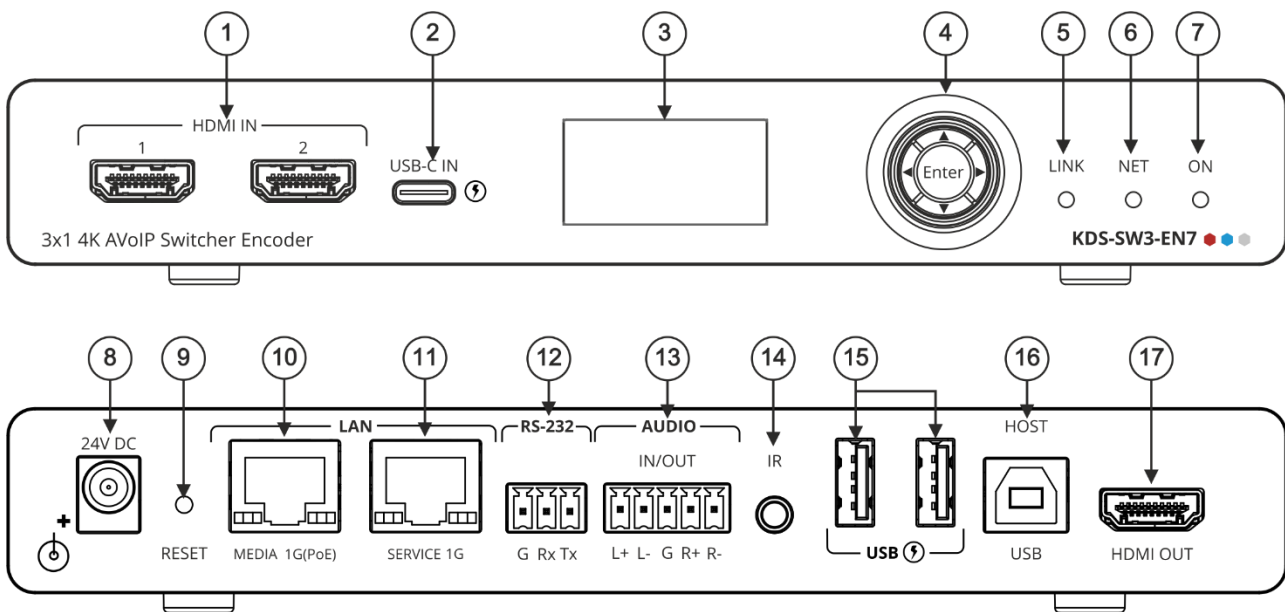

Figure 1: KDS-SW3-EN7 4K AVoIP Encoder
1. Connect an HDMI source (for example, a server or a media player) to the HDMI IN 1 connector on the **KDS-SW3-EN7** (connector ① in Figure 1).
2. Connect a video source (for example, a laptop) to the USB IN connector on the **KDS-SW3-EN7** (connector ② in Figure 1).
3. Connect a balanced stereo audio source (for example, the server audio connector) to the AUDIO IN/OUT 5-pin terminal block connector on the **KDS-SW3-EN7** (connector ⑬ in Figure 1).
4. Connect the LAN MEDIA 1G(PoE) RJ-45 port (⑨ in Figure 1) on the **KDS-SW3-EN7** to the LAN MEDIA 1G(PoE) RJ-45 port (⑳ in Figure 1) on the Kramer **KDS-DEC7** decoder via a LAN switch.
- On **KDS-SW3-EN7**, connect the two USB Type A ports ((15) in Figure 1) to a (for example) webcam and a speakerphone.
- On **KDS-SW3-EN7**, connect the IR 3.5mm mini jack ((13) in Figure 1) to a laptop/controller.
- On **KDS-SW3-EN7**, connect the RS-232 port ((11) in Figure 1) to a laptop/controller.
You can connect to **KDS-SW3-EN7** via an RS-232 connection (12) in Figure 1) using, for example, a PC.